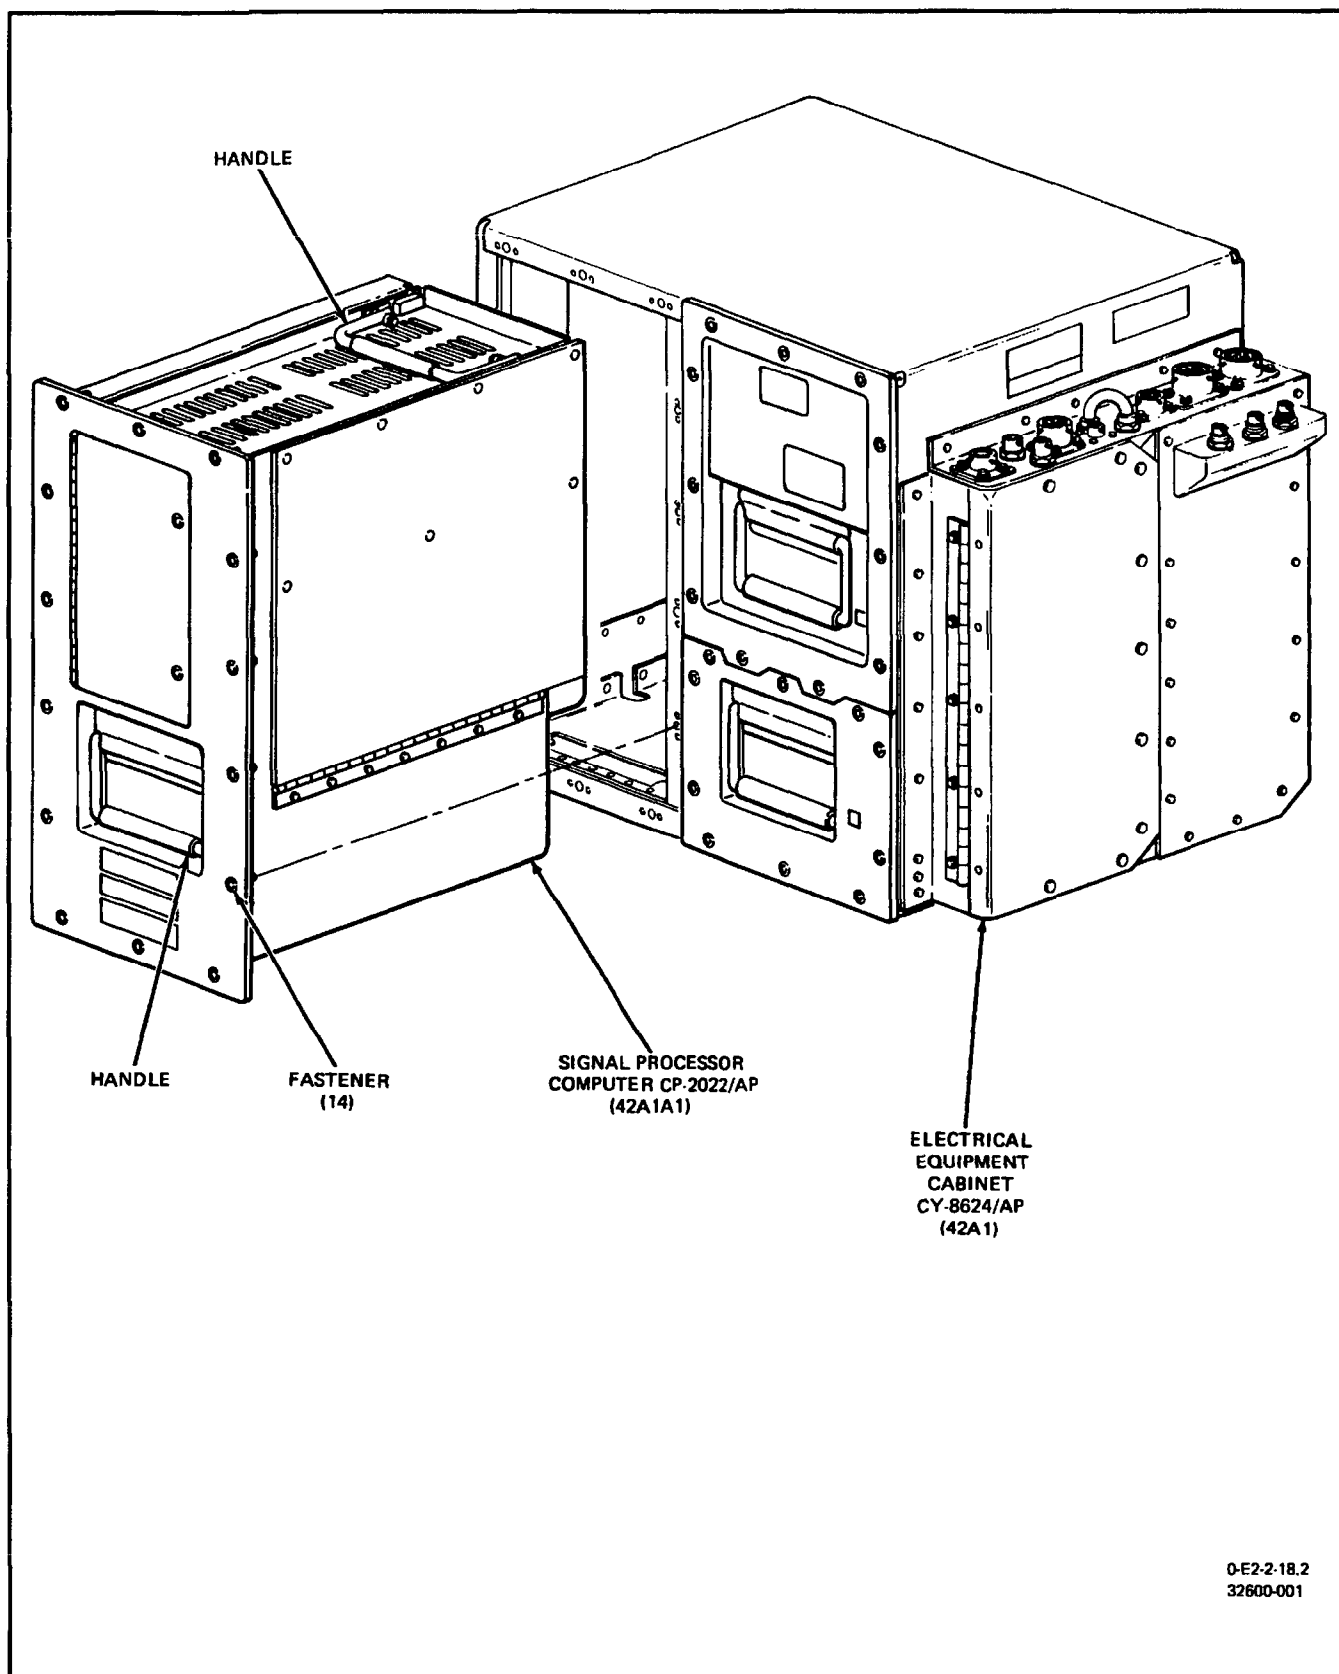

Figure 1. Removal and Installation of Signal Processor Computer CP-2022/AP
5. **REMOVAL.** (Figure 1.)
6. **INSTALLATION.** (Figure 1.)